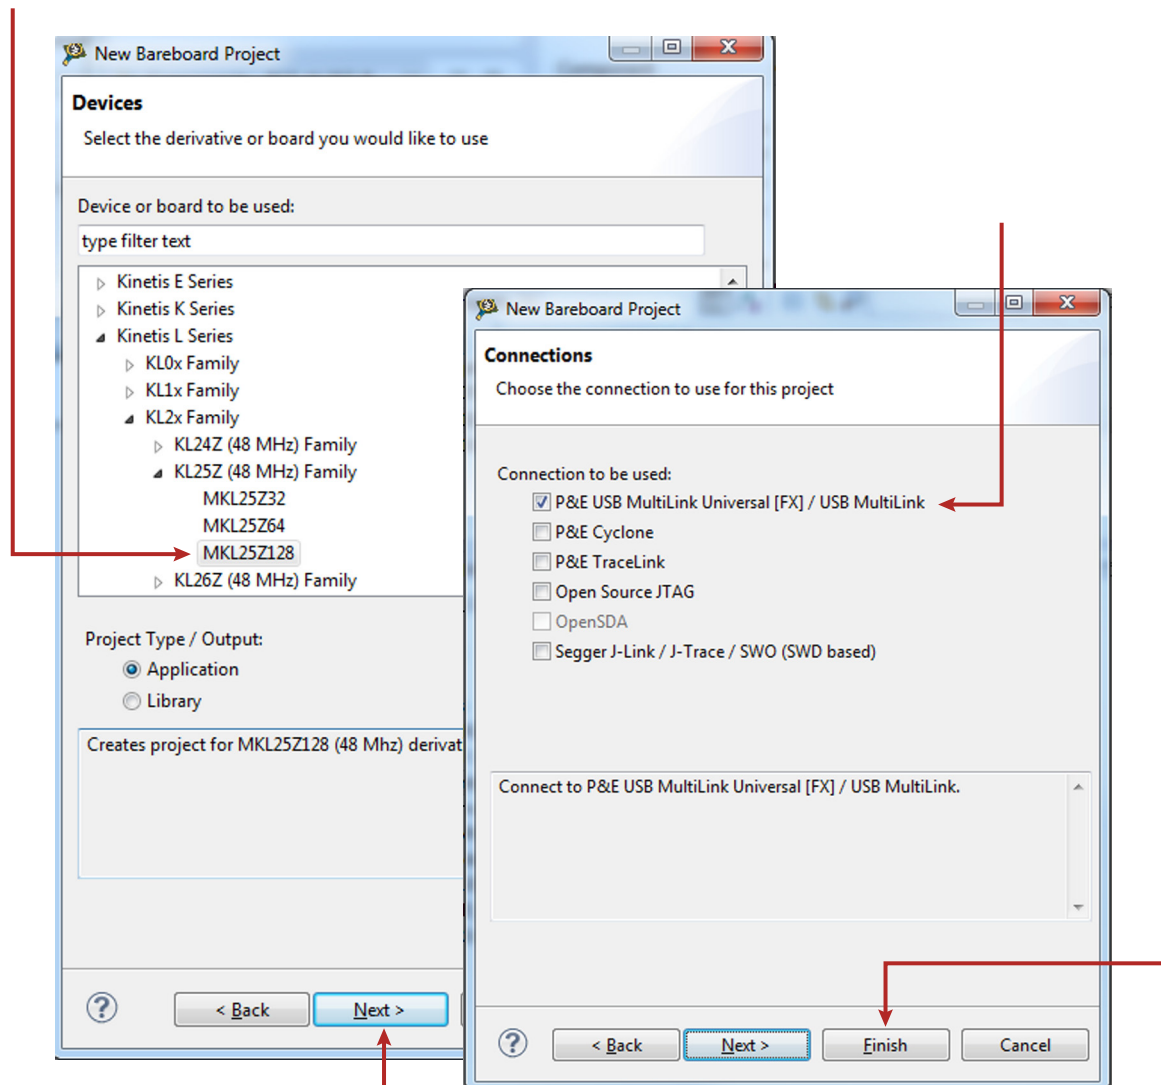

Figure 24. Selecting a device and a connection
2. In the **Devices** dialog box, select the MCU class for the appropriate MCU (In Figure 24, MKL25Z128 has been selected). Then click **Next**.
3. In the **Connections** dialog box, select the type of connection the project uses. (In [Figure 24 P&E USB Multilink Universal \[FX\]/USB MultiLink](#) has been selected). Then click **Next**.